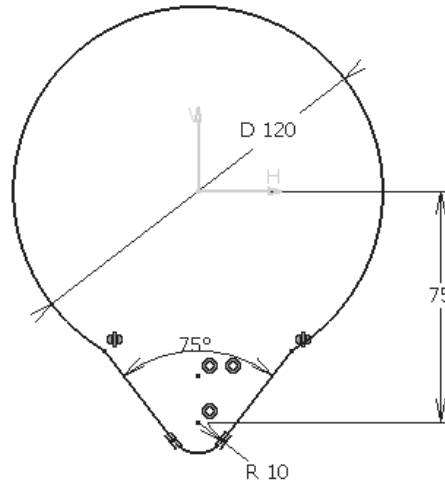

Figure 10-51 The second section of the base surface
5. Draw the sketch, as shown in Figure 10-51, and exit the **Sketcher** workbench.